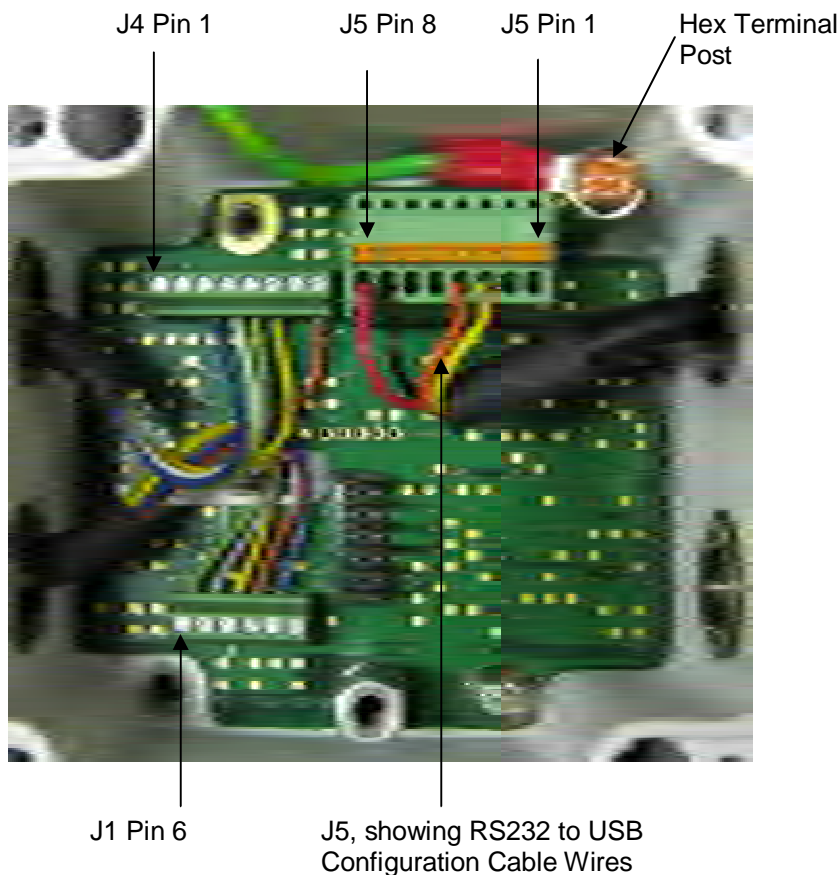

Figure 3                      Internal view of the hub box
2. Locate connector J5 (see Figure 3). Carefully pull the connector off its circuit board pins.
6. Attach the cable's screen wires to the terminal post (see Figure 3).
2. Locate connector J8 (see Figure 3).